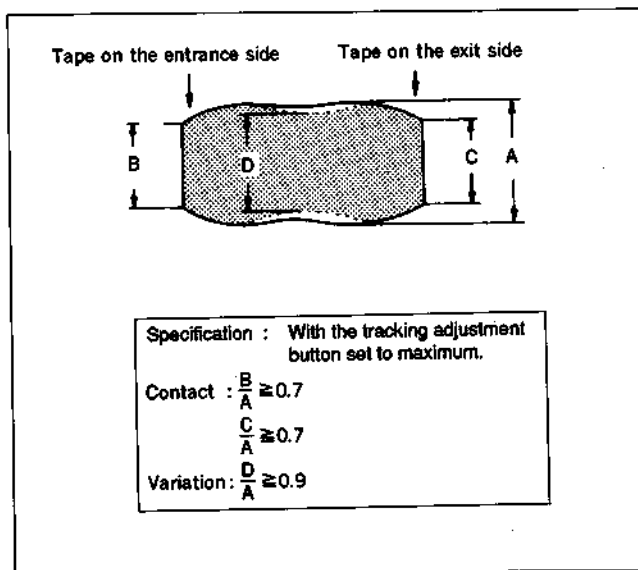

Fig. 7-32.
- 5) Observe the oscilloscope and verify that the RF output waveform is flat and that the amplitude is the largest. (Pressing the tracking button ▼/▲ will increase/decrease the amplitude with the output waveform being flat.) Check whether the variation and contact values of the RF output waveform meet the specification shown in Fig. 7-32. when the waveform has its peak. If not met, perform Step 6).